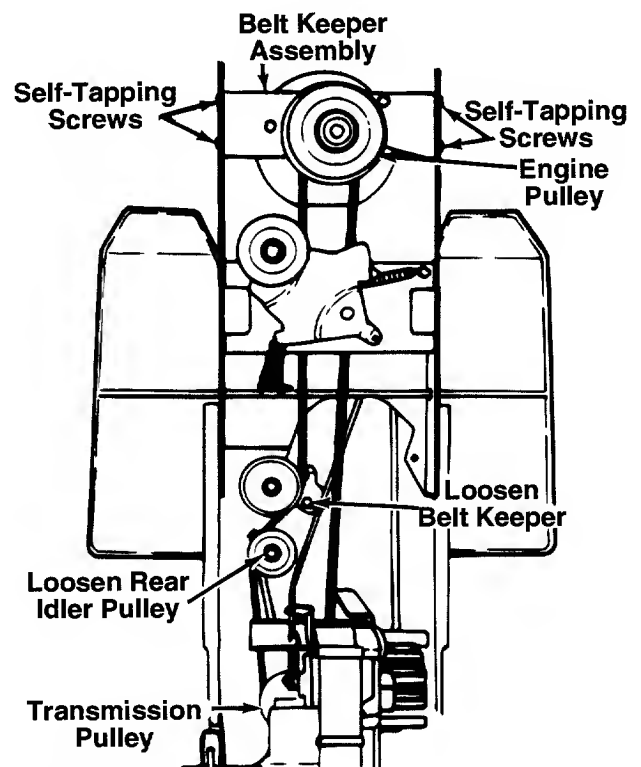

FIGURE 28.
### DRIVE BELT (See figure 28)
4. Remove the four self-tapping screws which hold the belt keeper assembly to the frame at the engine pulley. Push the belt keeper assembly forward, out of the way. See figure 28.